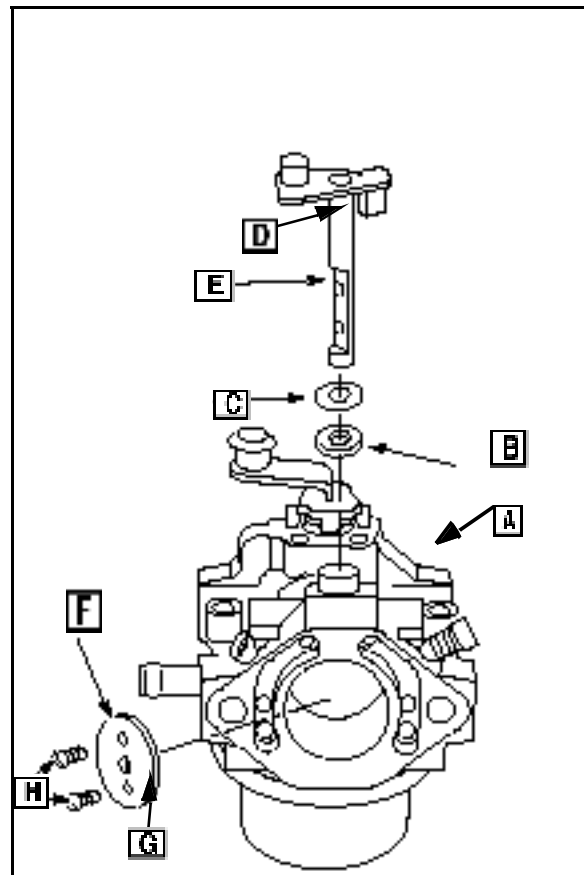

Fig. 59
1. Install throttle shaft seal ([B] Fig. 59) to carburetor body (A). Install seal with grooved side out, Fig. 59.
2. Place throttle shaft retainer (C) on throttle shaft (D). Install throttle shaft to carburetor body.
3. Rotate throttle shaft until the flat (E) on the throttle shaft (D) is facing out.
4. Lay the throttle plate (F) on the shaft with the stamped numbers (G) to the left. Install two screws ([H] Fig. 59).